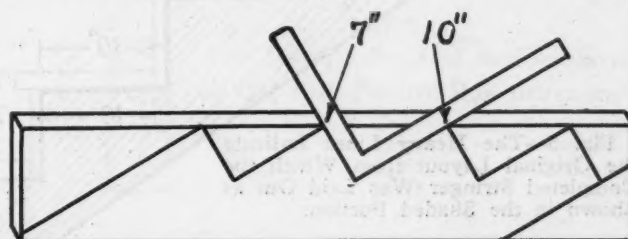
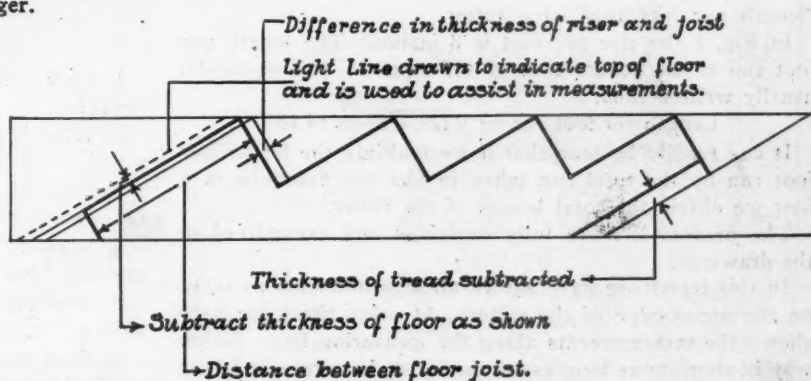

Fig. 3—Represents a Foundation from Which We Derive the Cutting Lines.
Fig. 4—The Heavy Lines in This Finished Layout Are the Sawing Lines.
Another type of pan, shown in Fig. 3, is the crescent design. This usually extends one-half way around the heater within the exterior sheet metal casing. Its surface is situated above the level of the fire door. Another variety of pan is the plain tank style which is filled by hand at the side or front of the heater and the body of the receptacle rests in the casing at about the middle of the plant. This is probably the most commonly observed pattern, but least efficient.
With the aid of a steel square lay out a 2 by 12-inch plank to form the stringer as shown in Fig. 3.
(1) Subtract the thickness of the tread as shown in Fig. 4 from the lower riser and draw line heavily as this is a cutting line.
(2) As this lowers the whole stringer another line should be added above to represent the floor of the porch. In other words, place above what you removed below. Draw this line lightly as it is a working line only.
(3) We now have the risers to consider. In Fig. 5 the heavy lines represent the original layout as shown in Fig. 3.